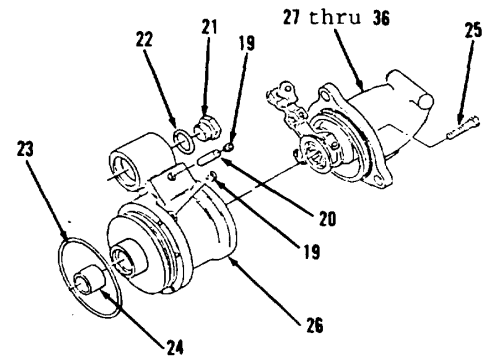

Figure 4-63.
9. Remove two plugs (19) and pin (20, Figure 4-63).
10. Remove bolt (21) and preformed packings (22 and 23). Discard preformed packings (22 and 23).
11. Remove bearing (24).